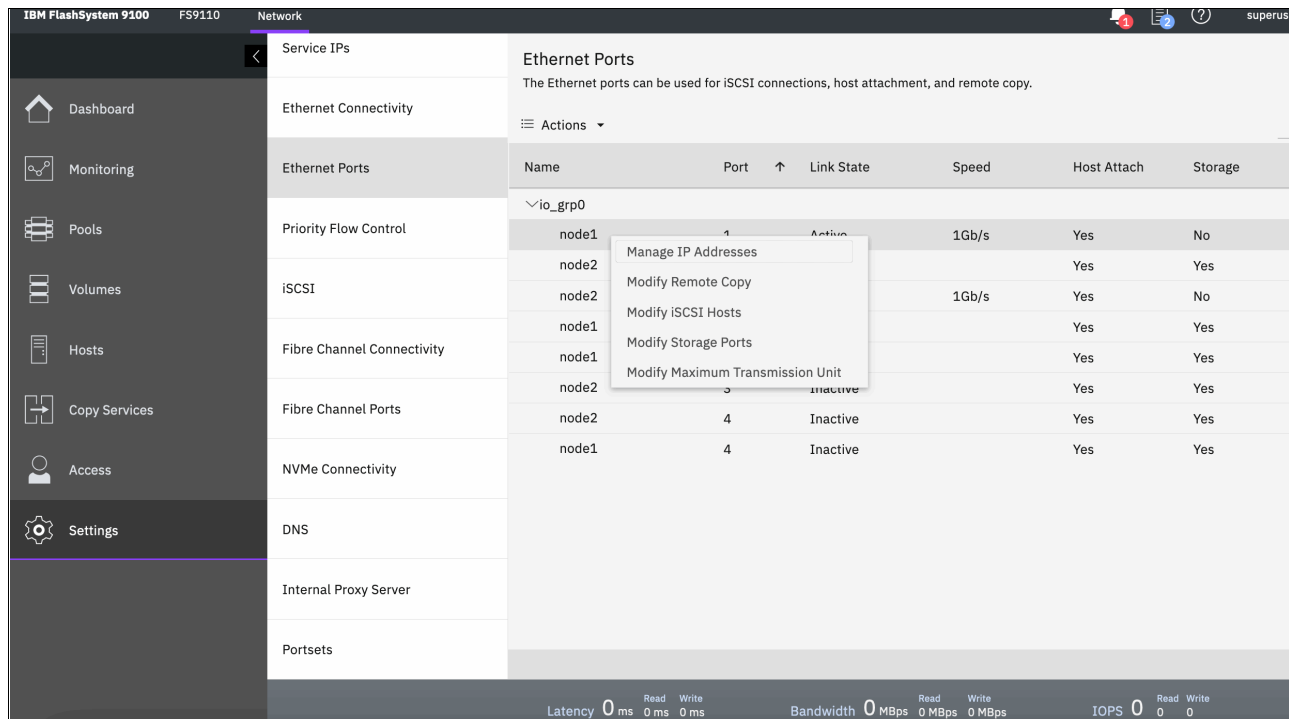

Figure 7-10 Actions available after right-clicking the suitable node and port
2. Right-click the port and select **Manage IP addresses** (see Figure 7-10).